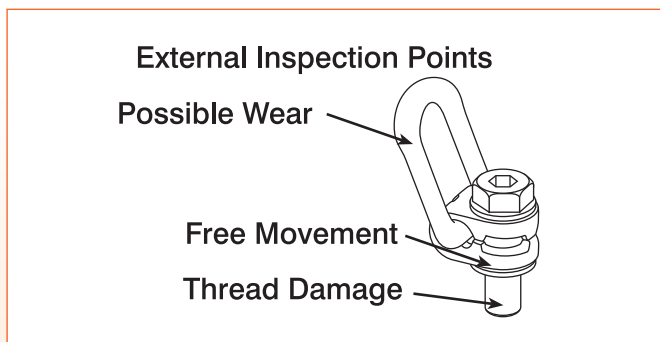

Fig. 3.
- Regularly inspect Lifting Point parts (Fig.3).